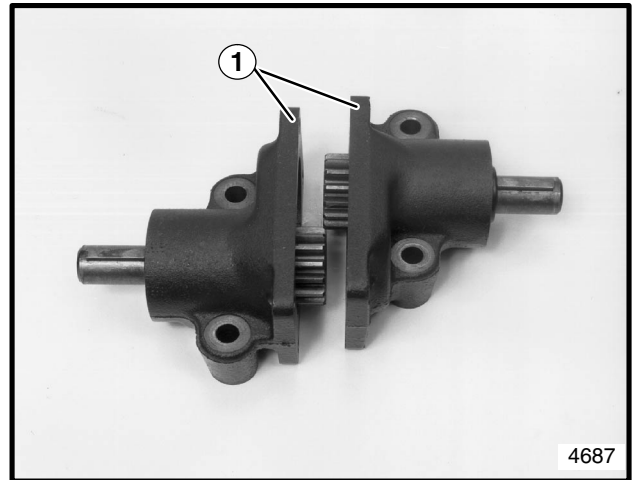

Figure 10
2. Once gearbox has drained, loosen and remove four (4) 3/8" screws, lockwashers and locknuts securing gearbox halves.
7. With the gearbox still upside down on a flat surface, laterally slide the halves together to get zero backlash on the gears (when both links are pointing upward). Tighten the four (4) 3/8-24 x 1 1/4" screws to secure the gearbox halves together and torque to 35 ± 5 ft. lbs. (47 ± 7 N-m). Refer to Figure 10.